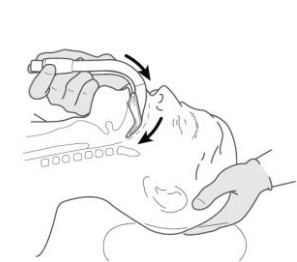

Figure 9: Swing the device inward with circular motion, pressing against the contours of the hard and the soft palate
5. Continue to slide inwards rotating the hand in a circular motion so that the device follows the curvature behind the tongue. (Fig.9)